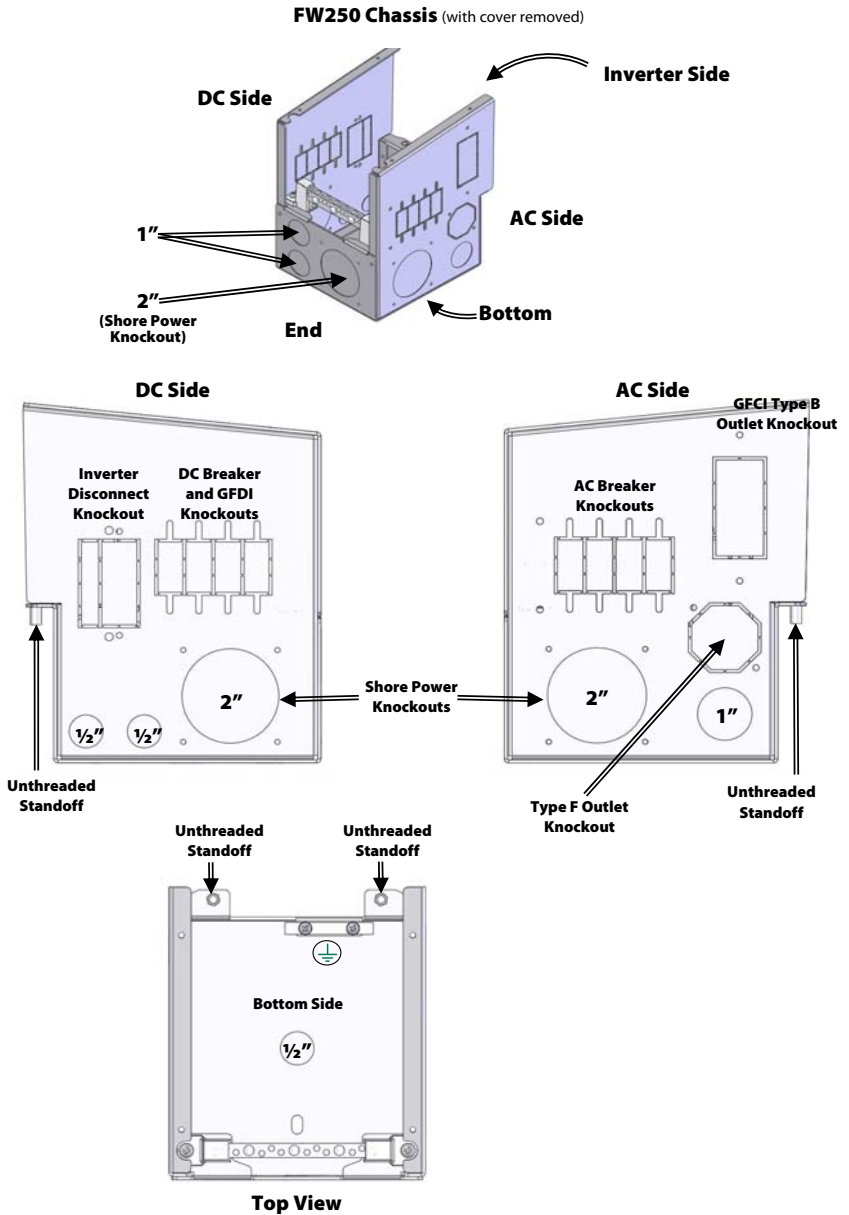

Figure 3 FW250 Knockouts
The chassis features electrical conduit knockouts for cabling (see Figure 3 on page 9) and rectangular breaker knockouts. It has one Shore Power knockout on each side and one on the end.
2. Verify which knockouts will be removed for the installation and remove those knockouts. See Figure 3 on page 9.